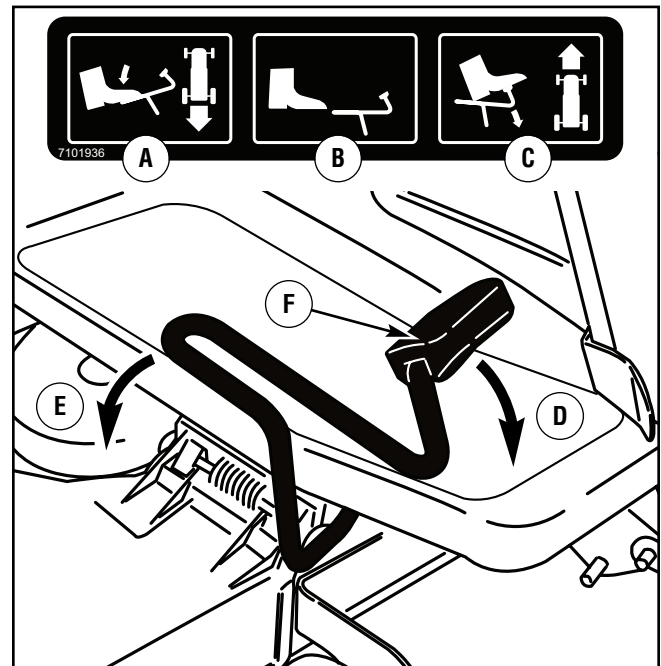

Figure 12: Speed control operation
4. Slowly push the **speed control pedal** forward to the desired speed (Figure 12).
1. Slowly push the **speed control pedal** forward to the desired speed (Figure 12).
1. Push the **speed control pedal** (Figure 12), OR